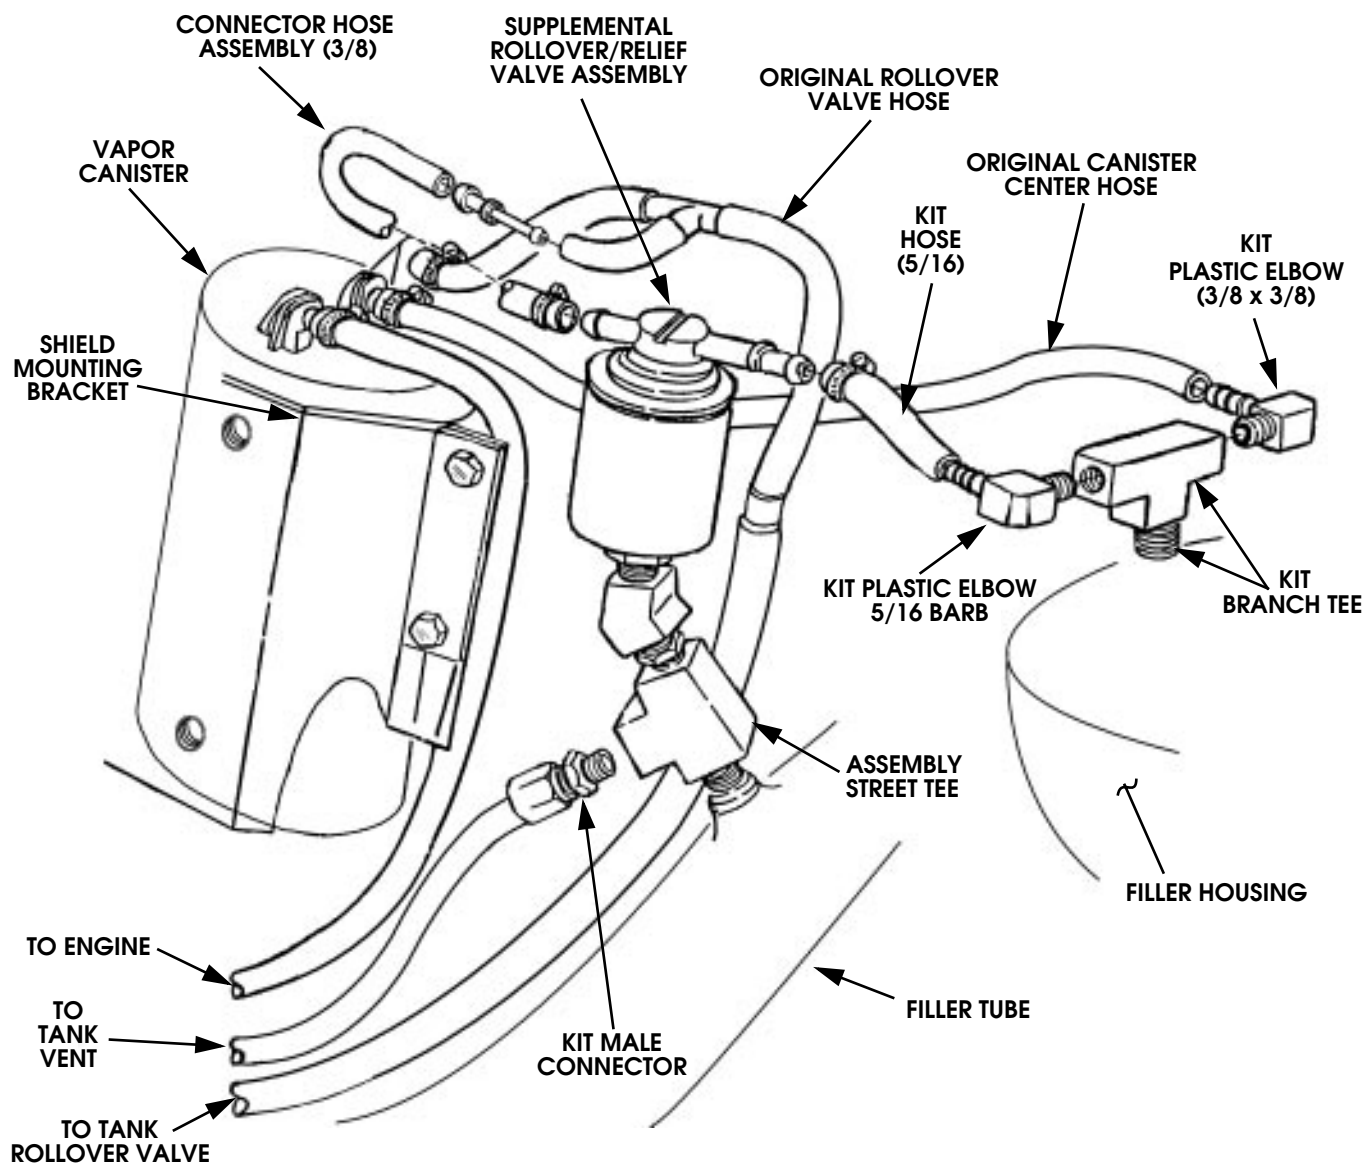

Figure 4 Hose, Valve, and Tee Connections
10. Install supplemental rollover/relief valve assembly as follows (Figure 4):
- b. Install valve assembly into filler tube. Position valve as shown (Figure 4).
- c. Tighten valve assembly street tee so that tank vent line port is parallel with filler tube (Figure 4).
11. Connect tank vent line to supplemental rollover relief valve assembly as follows (Figure 4):
- c. Apply Loctite PST to connector threads and install male connector in street tee of new valve assembly (Figure 4).
12. Verify correct hose connection (Figure 4). Be sure hoses are fully seated onto fittings and are properly routed. Hoses *must not* be kinked, twisted, or routed so supplemental valve becomes cocked in valve holder. Reroute hoses if needed.